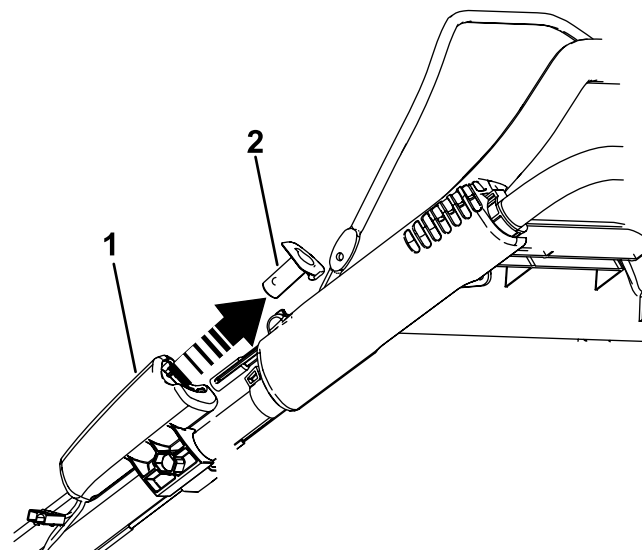

Figure 21
1. Remove the electric-start button (if equipped); refer to Figure 21.